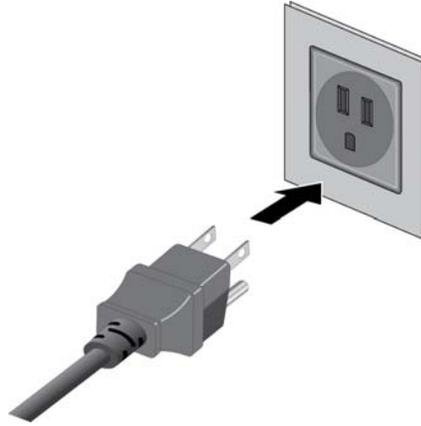

Figure 40. Connecting the Power Cord to an AC Power Source
4. Connect the power cord to an appropriate AC power source. Refer to Figure 40.